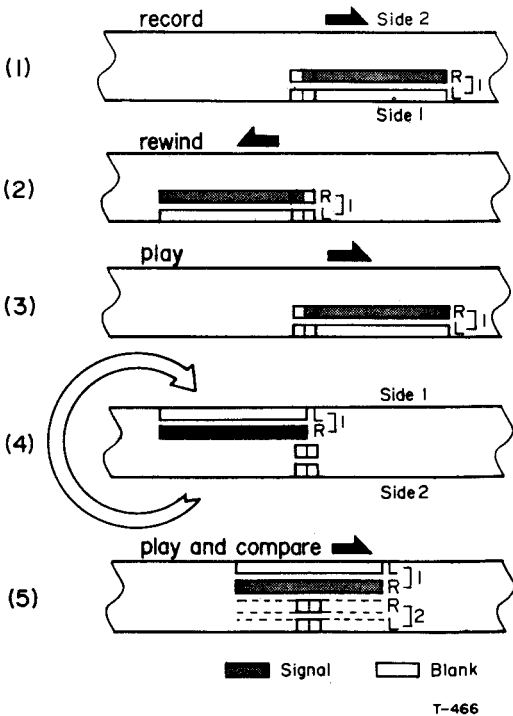

Fig. 6-22 Adjacent Track Crosstalk Measurement Procedure
- Numbers in parentheses correspond to steps in Fig. 6-22.